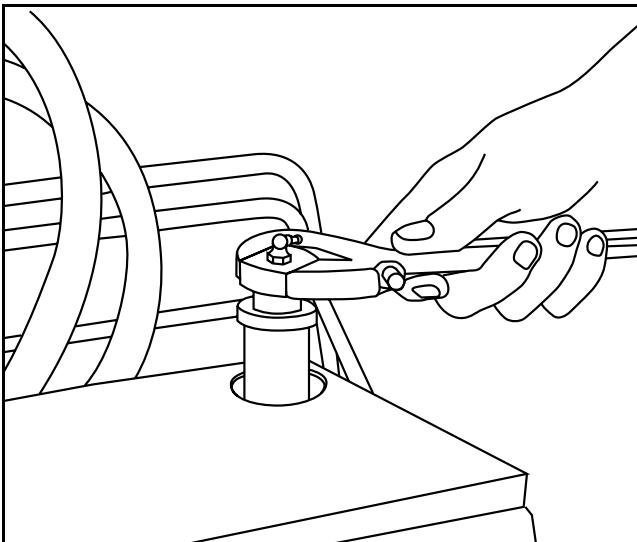

Figure 6 - 17 Remove tool and bushing
- 4) Remove the bushing removal tool and the bushing. (Figure 6 - 17)